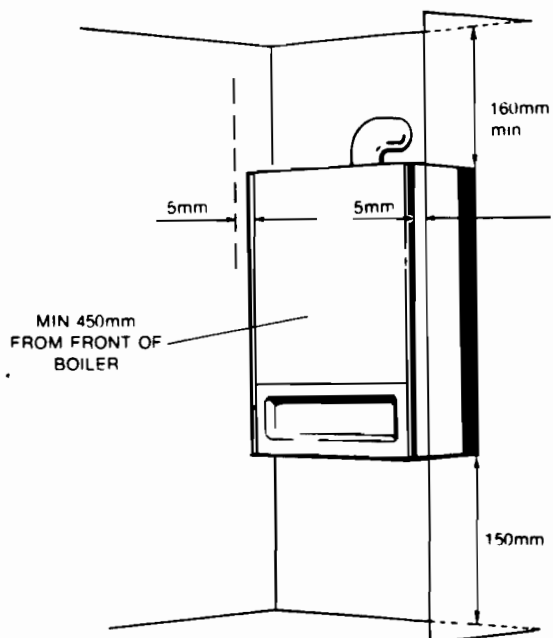

FIG. 9 CLEARANCES AROUND THE APPLIANCE
(11) CLEARANCES AROUND THE APPLIANCE (see Fig.9)